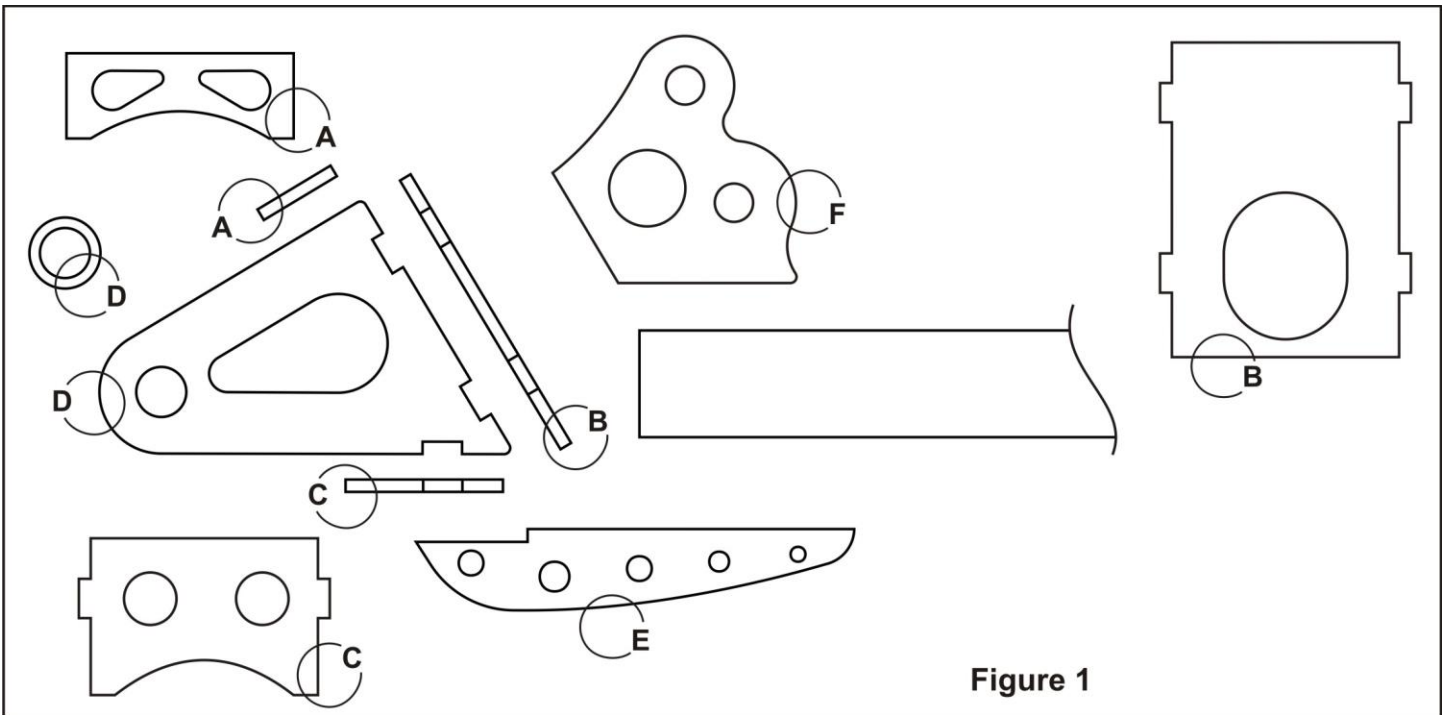
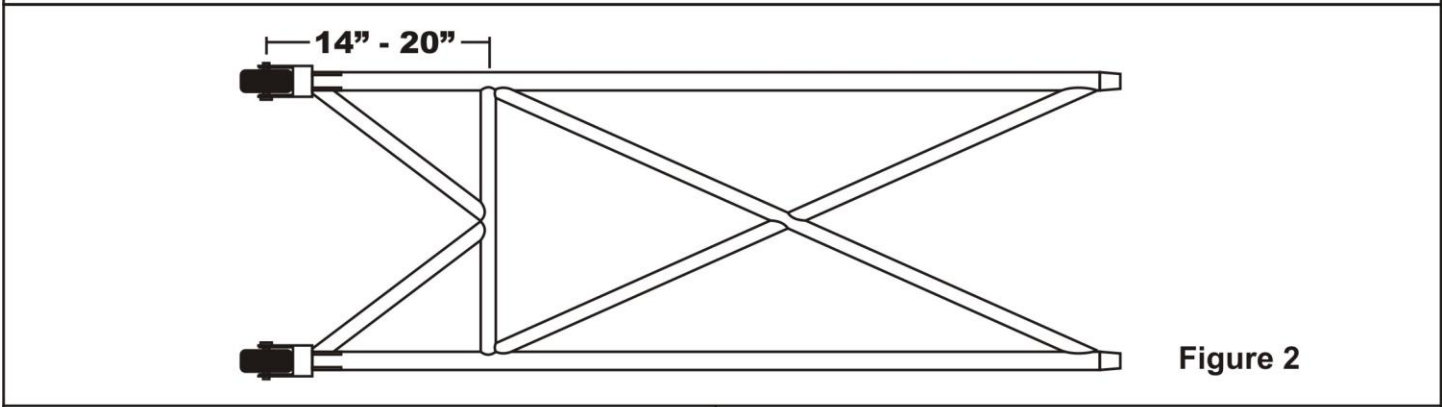
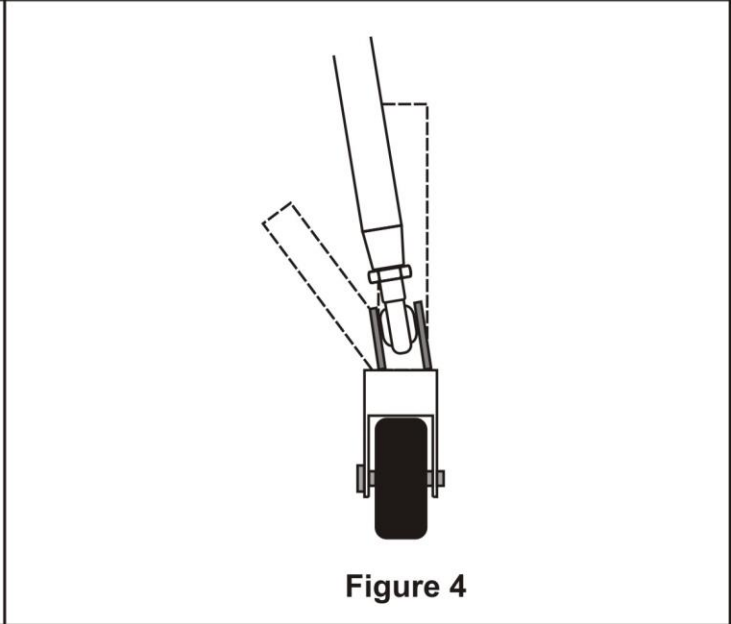

Figure 1
Figure 2
Figure 4
- 3...Next, build the caster brackets. Using a square tool, start with the caster mounting plate, "B" and place the caster side brackets, "D" in the alignment slots provided. (If using the orange Wheelie Wheels, weld the spacer shims, "D" into place first.) Tack the caster bracket sides into place. Once the sides are tacked into place, take the bottom caster plate (C) and slide it into place using the location slots. Tack it into place. Now, tack the upper caster plate (A) into place. Repeat the procedure for the other bracket assembly. Test fit the wheels, if all fits properly, finish welding the assemblies. (See Figure 1)
- 4...With the car set at ride height, start mocking up the lower bars. Begin by threading the tube adapters (RH) onto the rod ends that are in place on the housing. Thread them up at least half way up the rod ends. Slide 2 pc.s of the 1-1/8" x 76" tubing for the lower bars onto the tube adapters and tack weld them in place. Slip the completed caster brackets onto the tubing. Slide as far as necessary to attain the desired length needed for your application. Mark the tubes, remove the caster brackets and cut the tubing. Replace the caster brackets, making sure they are square and level, tack weld into place. These are now your main lower wheelie bar tubes.
caster bracket gussets (E) into place (See Figure 1). Flip them back over and measure each bar from the center of the wheel up each lower tube 14" - 20" and mark both bars. This will be the mounting point for the cross bar. (See Figure 2)
6...Clamp the main lower bars down to the table at the width you decided at the beginning of the installation when the tabs were installed on the bottom of the rear end housing. Make sure they are straight and square. Cut and notch both ends of the 1" X .058" x 24" piece of tubing to fit between the bars even with the marks made. This makes the cross brace. (See Figure 2) Once you have the bar square and level, tack weld it in place.
7...Cut and notch both ends of one of the 3/4" x .058" x 72" tubes to go from one of the intersections of the cross member and main lower tube to just behind the tube adapter at the upper end of the opposite main lower tube. Cut and notch the other 3/4" x .058" x 72" so that it forms an X from the other end of the cross member (See Figure 2). Next, cut the 3/4" x .058" x 36" piece of tubing in half. Cut and notch each one to fit from the center of the cross member to the bottom of the main lower tubes just behind the caster brackets. Repeat for the remaining piece of tubing to form a V. (See Figure 2). Tack weld all bars in place when correctly fitted and placed.
10...Tack weld the 2 (LH) tube adapters into one end of each of the remaining 76" long pieces. Thread the tube adapters onto the 2 upper tab assemblies (at least half way up the threads) and place the assemblies on the marks previously made in step 8. Move the opposite end of the assemblies to align with the center of the caster brackets. Tack weld the tab assemblies into place on the housing.
11...Assemble the 4 caster clevis tabs (F) with the 2 remaining rod ends (1/2" x 3/8"). Thread the tube adapters onto the rod ends approximately half way. Slip the assemblies into the end of the 2 top bars, do not tack them in. The caster brackets and upper tubes will have to be trimmed to fit so that the brackets will be in line with the direction of the upper bars (See Figure 4). Once the brackets and tubes have been trimmed to fit, tack the tubes and tube adapters plus the caster brackets into place.